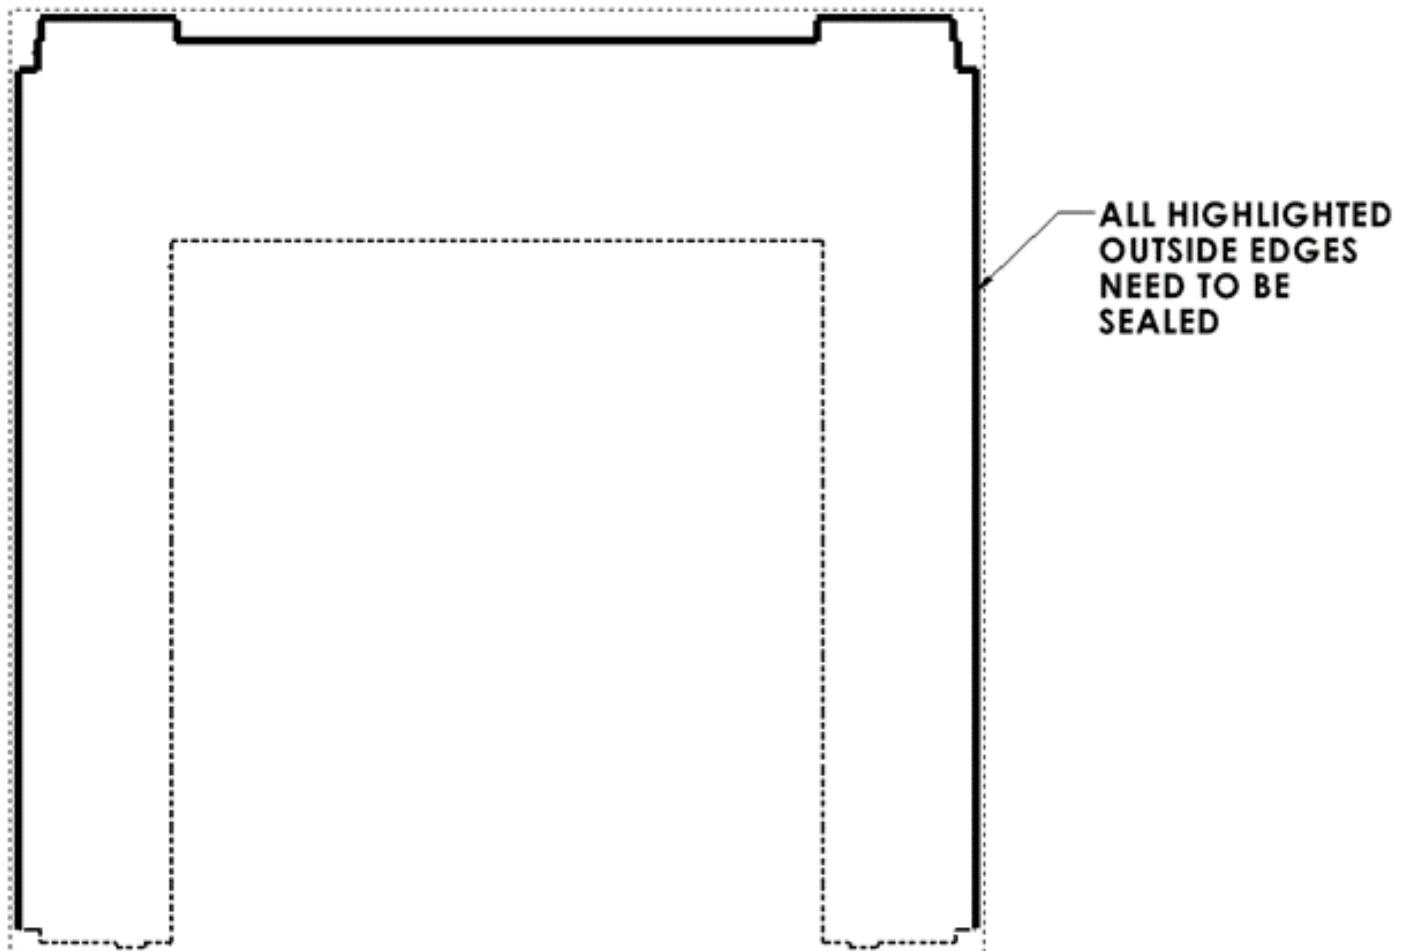

FIGURE 14
- g. Repeat the process for the Short Bracket w/Seal (B) on the right side.
11. SEAL PERIMETER: Apply sealant to all outer edges (Figure 14). Vulkem® 116 is our recommended sealant for best results.